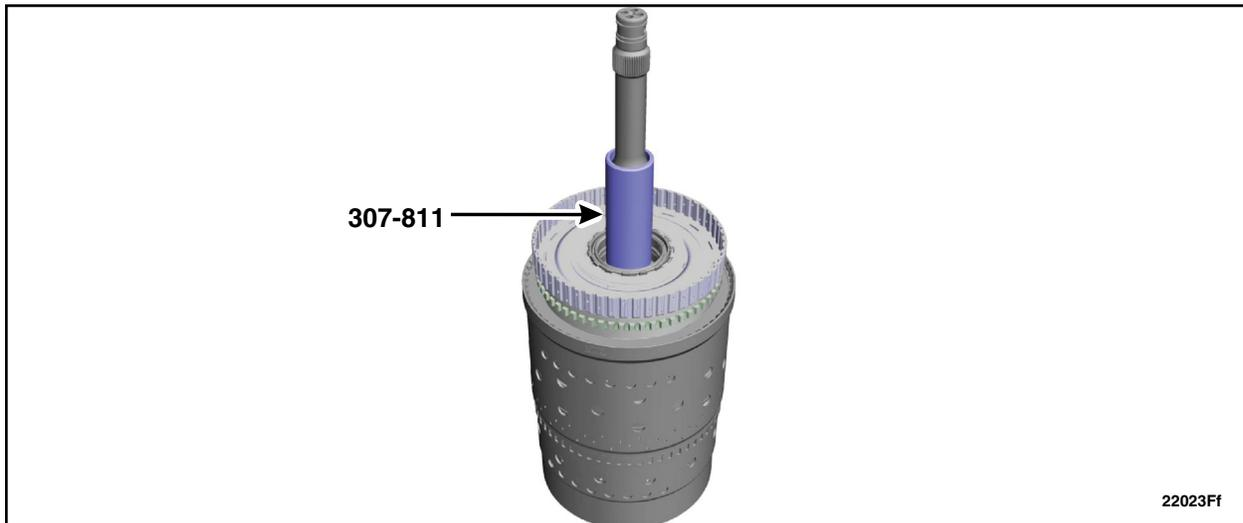

FIGURE 50
59. Remove Special Service Tool: 307-811 pusher & sizer, F2 Seal guide. See Figure 50.